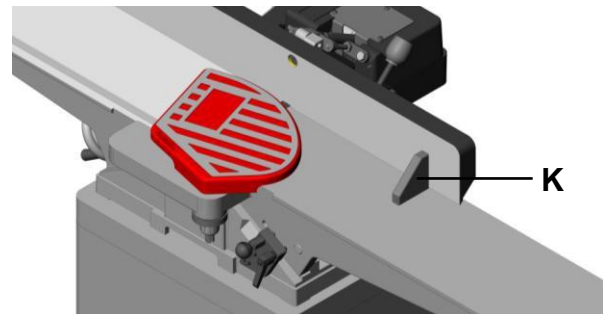

Fig. 26
5. Place an angle measuring device on the table and against the fence to confirm a 90° setting (K, Fig. 26).
6. If the fence is not square to the table, release the lock handle (J), loosen the hex nut (F), and turn the stop bolt (E) until the fence is square to the table.
7. Tighten the lock nut (F) to retain the setting.
8. Tighten the lock handle (J).